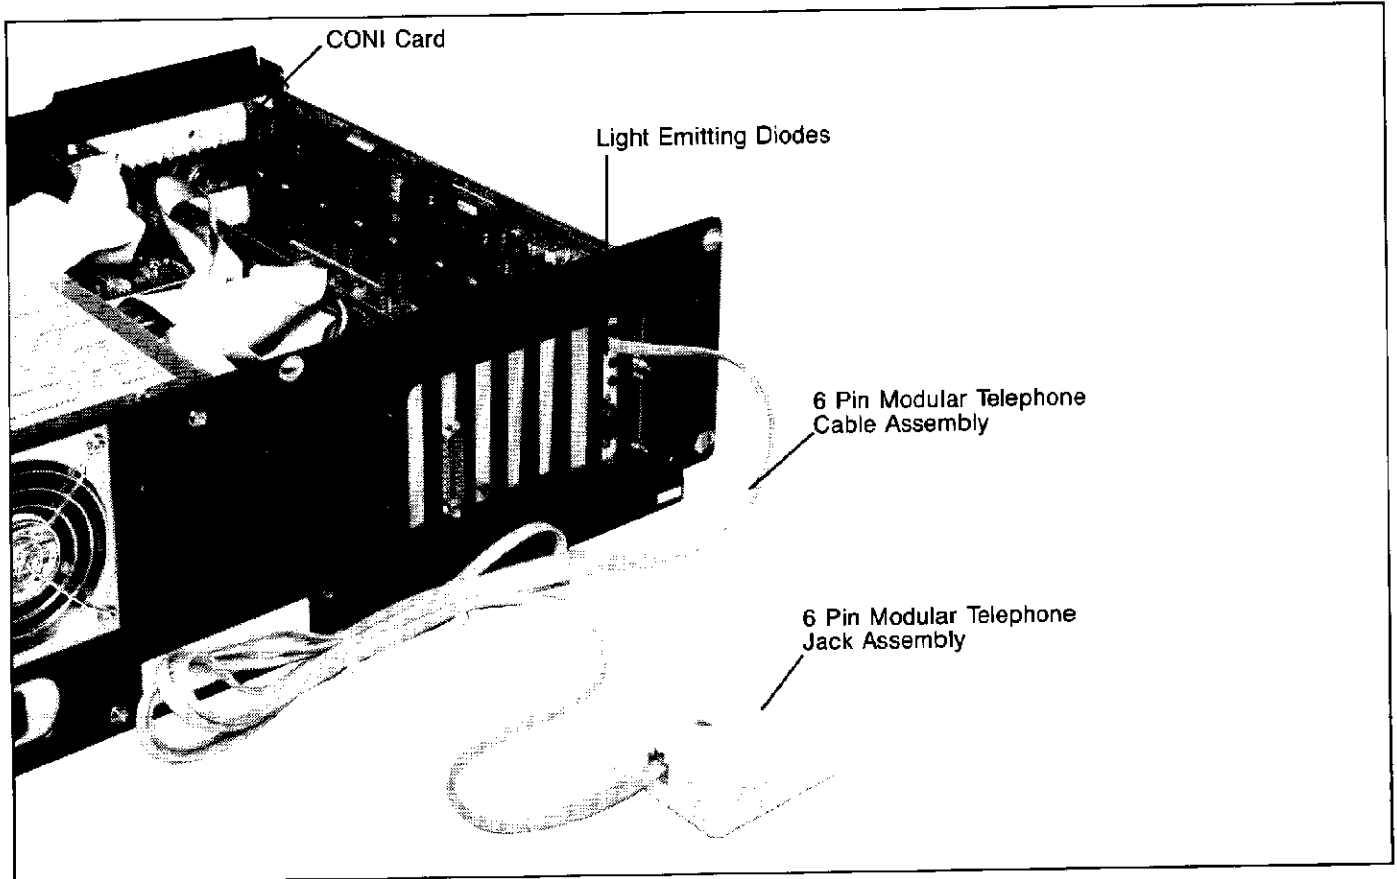

Fig. 1 CONI Card Installed in a Personal Computer
The CONI card has two Light Emitting Diodes (LED's) visible from the back of the Personal Computer (see Figure 1). These two LED's are illuminated when data is being sent in either direction between the CONI card and a solid-state control product.
- One standard 6-pin modular telephone cable assembly with a plug at each end. (See Figure 1.)
- One standard 6-pin modular telephone jack assembly. (See Figure 1.)